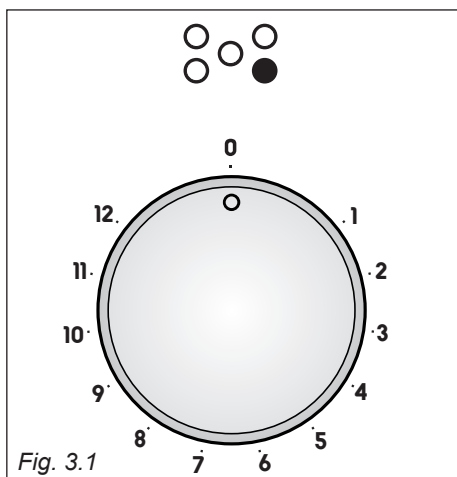

Fig. 3.1
- These zones are controlled by a continuous energy regulator switch (fig. 3.1). The heat intensity can be regulated continuously from “0” to “12” (max).